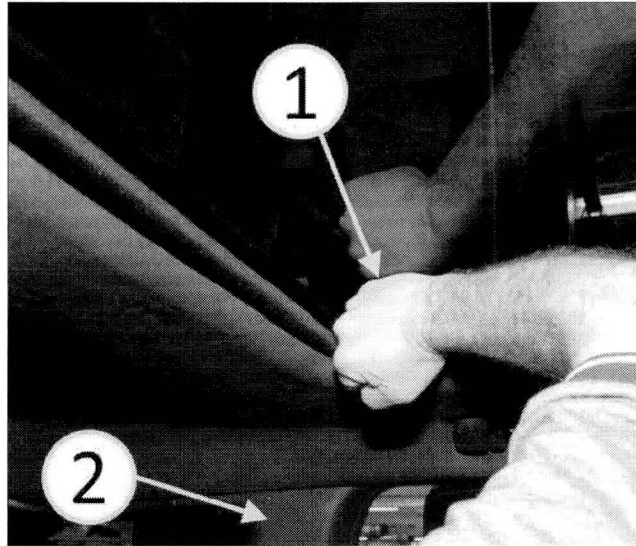

Fig. 1 Push And Tap On Sunroof Glass Panel
1. Test drive the vehicle over uneven road surfaces or where the customer advises the noise can be duplicated. Attempt to duplicate the noise by pushing upward on the dual pane sunroof rear panel at the rear corner with increasing pressure then release while listening for a creak/groan noise. Also try tapping with fist on the dual pane sunroof rear panel at the rear corner while listening for a click/tick noise (Fig. 1). If the suspect noise is duplicated, proceed to Step #2 .